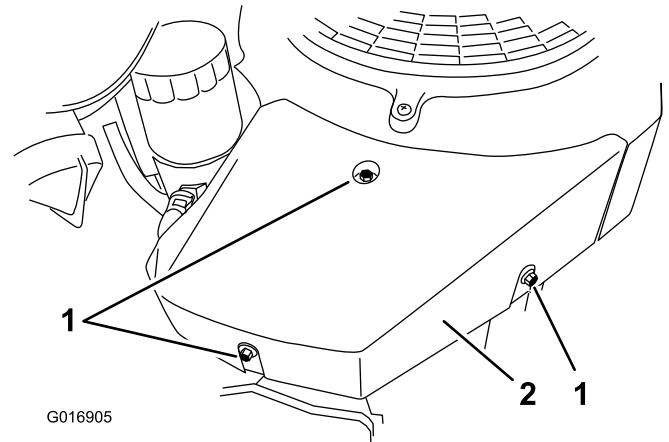

Figure 72
3. Remove the right-hand shroud by removing the top mounting screw and loosening the 2 side screws (Figure 72).